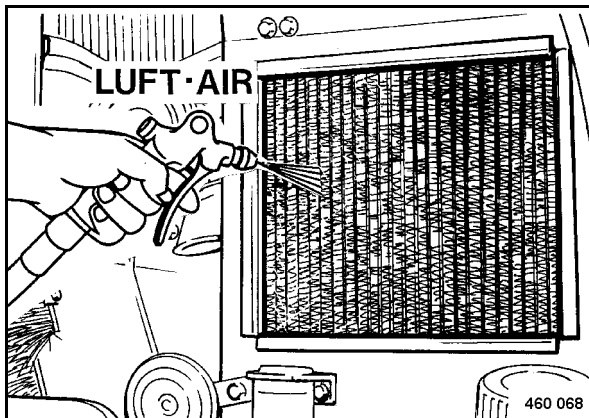

Fig. 107
- Blow the coolant radiator (Fig. 107) out from the air intake side.